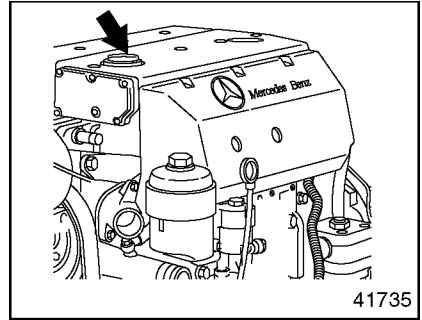

Figure 47 Oil Fill
9. Add new engine oil through the oil fill (see Figure 47).